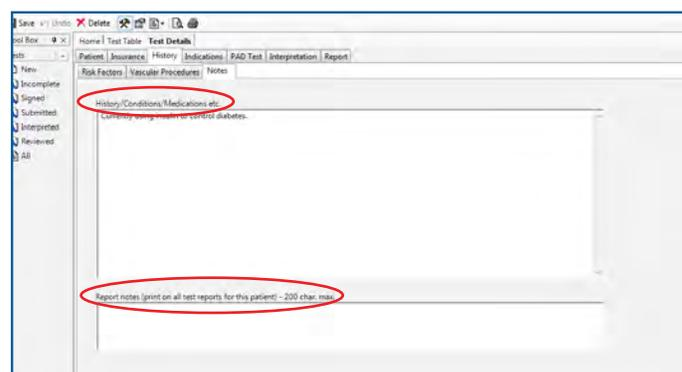

FIGURE 1.8 - Notes Tab
7. The Notes tab is used to document observations about the patient (Figure 1.8).